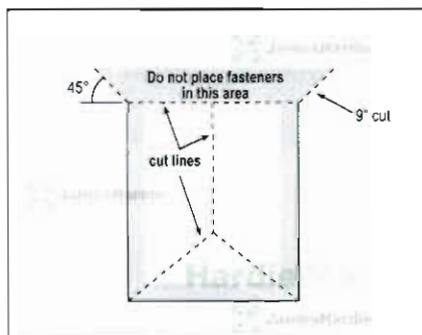

figure 3
Step 1: Use the inverted "Y" cut at rough window and door openings. Do not place fasteners within 9" of the rough opening, door or window heads. This area should not be fastened to allow for proper flashing installation. At the top corners of the rough opening, cut the weather barrier at 45° to extend 9" past the joint (fig. 3).